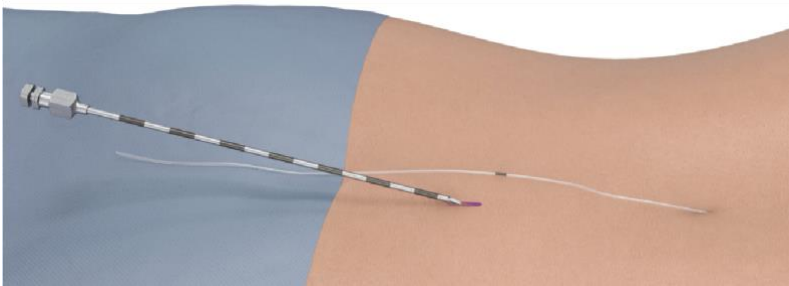

Figure 1
2. With the stylet in place, advance the introducer from the second incision receiver pocket to the first incision electrode array entry site. (Figure 1).